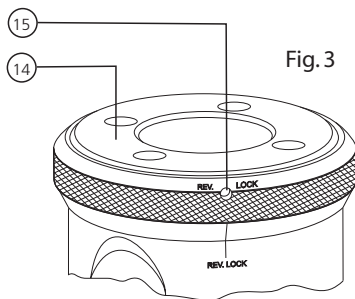

Fig. 3
Manual Boring & Facing Head is capable of reverse feed by running the spindle in reverse. To set the head for feeding in clockwise and counter-clockwise direction, screw the head on your desired shank. Align the "Rev. Lock" mark on the facing ring (7) with the "Rev. Lock" mark on the body (5) (see Figure 3). Insert a 3/32" hex wrench through the hole in the facing ring and tighten the reversing lock screw (15) (see Figure 3) in the top cap. This prevents the head from unscrewing during reverse (counter-clockwise) operation.